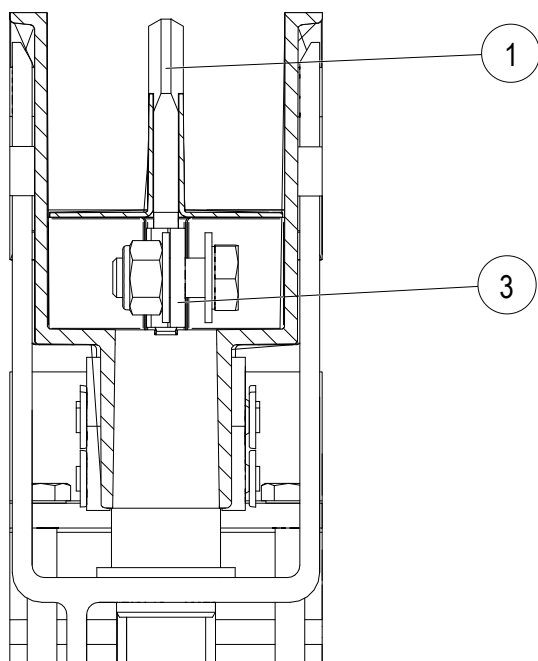

Fig. 128: Sliding contact (item 1) is positioned in the contact sheet (item 3)
- The sliding contact (item 1) must be inserted between the contact sheet (item 3) and must not be positioned next to the contact sheet (see Fig. 128).